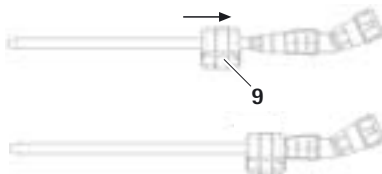

Fig. 3 Mounting block with pressed locking clip
- Keep pressed locking clip 9 of mounting block 4 and push the clip over reamer handpiece 6, see Fig. 3.